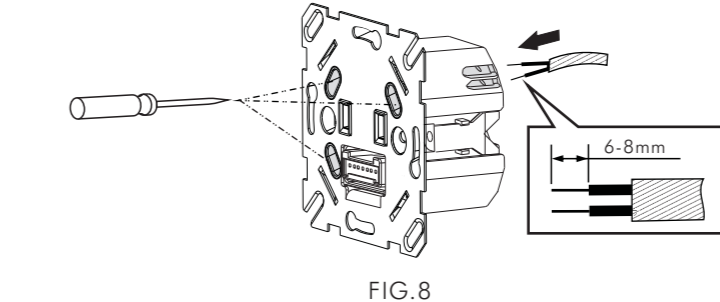

FIG.8
- 3.4.1.2 Unscrew the terminal and refer to the wiring diagrams (See FIG.6-A to FIG.6-B) to insert the power cables into the corresponding terminal pin jack. Please be noted to strip off 6-8mm of cable sheathing by tool (See FIG.8).